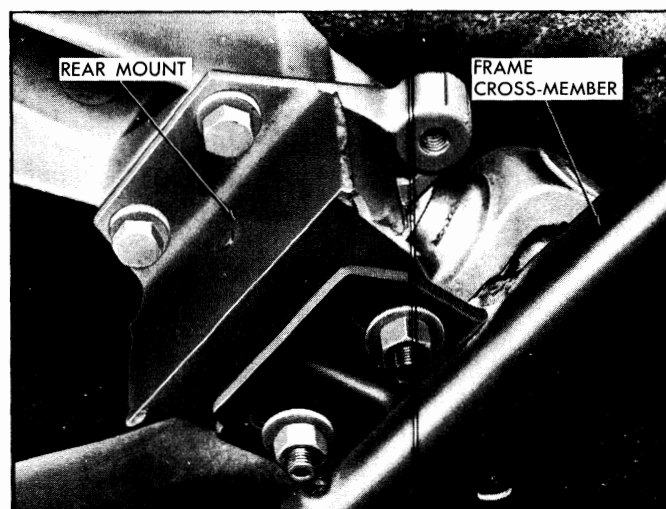

Fig. 7C-38 Rear Mount
18. Remove 2 rear mount to frame crossmember nuts and raise transmission so studs clear the crossmember (Fig. 7C-38).